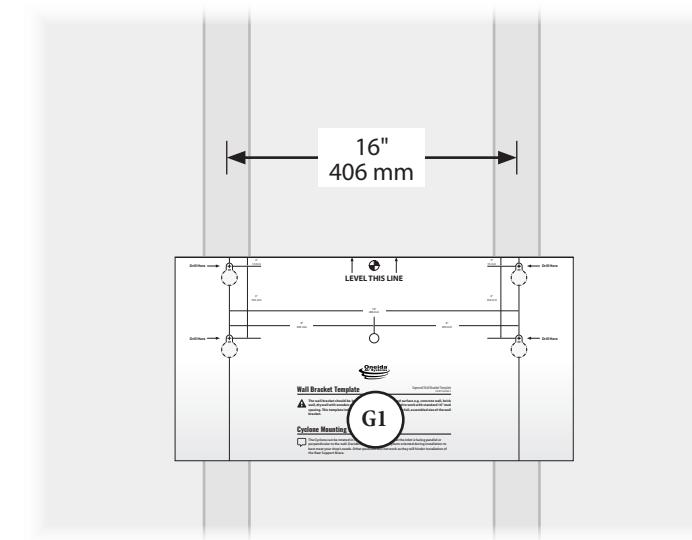

FIG. 1
- 1 Identify where you will install the Supercell in your shop. It must mount to a reinforced wall (studs, concrete, etc.) and is designed to accommodate standard 16" stud spacing. Center the wall bracket Template (G1) between your wall studs [FIG. 1].